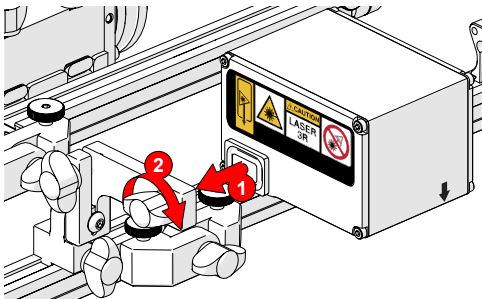

Fig. 22 - Attach the tracker module to the tracker mounting bracket
5. Align the indent feature of the Tracker module **1** (Fig. 22) with the Tracker mounting knob **2** (Fig. 22), and tighten the Tracker mounting knob.